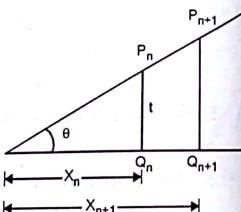

Fig. 1.8.1
- Consider Fig. 1.8.1. The  $n^{\text{th}}$  bright band is produced at a distance  $x_n$  from the edge of the wedge.